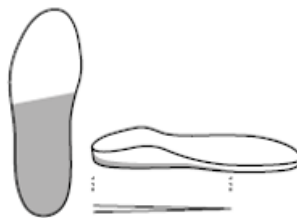
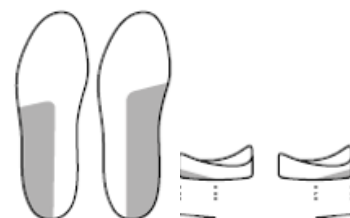

Fig. 1: Heel raise
Fig. 2: Inner or outer edge elevation
| <p>1 Purpose / IndicationInsole blanks are preliminary products used to manufacture orthopedic insoles. Based on a medical prescription, an insole blank is individually customized and processed by a healthcare technician to create a bespoke orthopedic insole for a specific customer. Custom-made insoles are functional orthoses designed to support, cushion, or correct the foot, as well as to relieve pressure or redistribute load on the soft tissues of the foot.</p> <p>2 Conditions of UseIndividually processed insole blanks must be dispensed in a usable and properly fitting condition.</p> <p>3 Instructions for UseBefore initial use, the insole blanks must be processed by qualified specialists according to the user's individual needs and in accordance with these manufacturing instructions. The size marking on the insole blanks serves only as a guide. Like a well-fitting safety shoe, the insole blank should consider not only foot length but also the toe box (shoe interior space). Because foot lengths may differ, both feet must always be measured and individually fitted. A processed insole blank is intended for use by one patient only.</p> <p>4 Safety Instructions</p> <ul style="list-style-type: none"> <li>• Insole blanks must be processed and customized only by qualified specialist personnel.</li> <li>• Observe all safety instructions of any machines used during processing.</li> <li>• General occupational health and safety regulations (according to the German Occupational Safety and Health Act – ArbSchG) must be followed during processing.</li> <li>• The materials used in insole blanks are subject to aging and may change their properties over time. The condition of the insole blanks should always be checked before processing.</li> <li>• To protect insole blanks from environmental influences during storage, we recommend storing them in a dry, light-protected location at temperatures between 10–30 °C.</li> </ul> <p>5 Application RisksIn the case of significant foot deformities, the use of an insole blank is not suitable.</p> <p>6 Material Specifications</p> | <p>Base Material: EVA, PESReinforcement: PESCover/Cushioning Material: ELTEN ESD PRO cover materialPad: SBRCushioning Components: PU</p> <p>7 DisposalThe disposal of the product and packaging must be carried out in accordance with applicable legal regulations.</p> <p>8 Processing<span style="color: #e67e22;">The Novaped Protect ELTEN insole blanks may only be processed in accordance with the following manufacturing instructions. Failure to comply will invalidate the type examination certificate, and the supplying company will be liable for any damages resulting from this.</span><span style="color: #e67e22;">When fitting the Novaped Protect ELTEN insole blanks into safety shoes, ensure that they lie completely on the insole board. The material thickness of the insole blank must not be altered in the steel cap area. A heel height of a maximum of 10 mm must be maintained.</span></p> <p>8.1 989610000 Novaped S90 Protect ELTEN bonded989610800 Novaped S90 Protect ELTEN unbonded</p> <p>8.1.1 Grinding and CuttingThe outline of the insole blank may be processed in the forefoot area by grinding and cutting to fit the shoe.</p> <p>8.1.2 Finishing Wedge for Heel Raise, Inner or Outer Edge Elevation<span style="color: #e67e22;">No material may be added to the steel cap area or within 10 mm behind it!</span></p> <ul style="list-style-type: none"> <li>• Roughen the underside of the insole blank with a fluted grinding disc and remove dust.</li> <li>• Cut the build-up material, e.g., Multiforte (black, 3 or 6 mm, item no. 010774030 or 010774060), to the required size. Roughen the bonding side on the grinder (24 to 40 grit) and remove dust.</li> <li>• Coat both the underside of the insole blank and the roughened area of the Multiforte evenly with adhesive (e.g., Renia Ortec Spezial, item no. 011625006) and let it air for about 20 minutes.</li> <li>• Activate the adhesive film on the insole blank and build-up material using a hot air gun for about 20 seconds at approximately 120 °C, and bond the materials together. Press the build-up material onto the insole blank manually or with a suitable last.</li> <li>• After the material has cooled, grind the build-up material into a heel wedge (Fig. 1) or an inner or outer edge elevation (Fig. 2) on the</li> </ul> |
grinder. The material should taper to 0 mm at the metatarsal heads (Fig. 2).
- After the material has cooled, grind the build-up material into a heel wedge (Fig. 1) or an inner or outer edge elevation (Fig. 2) on the grinder. The material should taper to 0 mm at the metatarsal heads (Fig. 2).